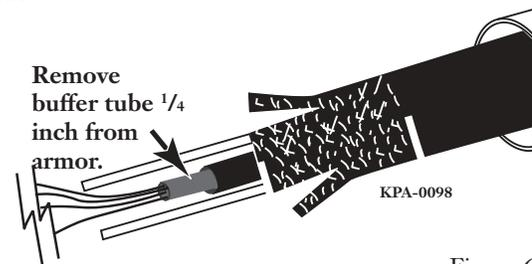

Figure 6
**Step 12** Remove the buffer tube to approximately  $\frac{1}{4}$  inch from the end of the armor (Figure 6). Use **extreme caution** not to nick the fibers while cutting the buffer tube.